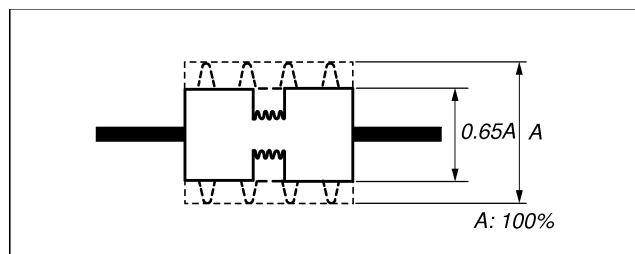

Fig. 4-11
- 2) Confirm that RF waveform has amplitude of about 0.65A (65%) in the FWD mode taking the waveform amplitude during CUE/REV mode as A (= 100%). (Refer to Fig. 4-11.)